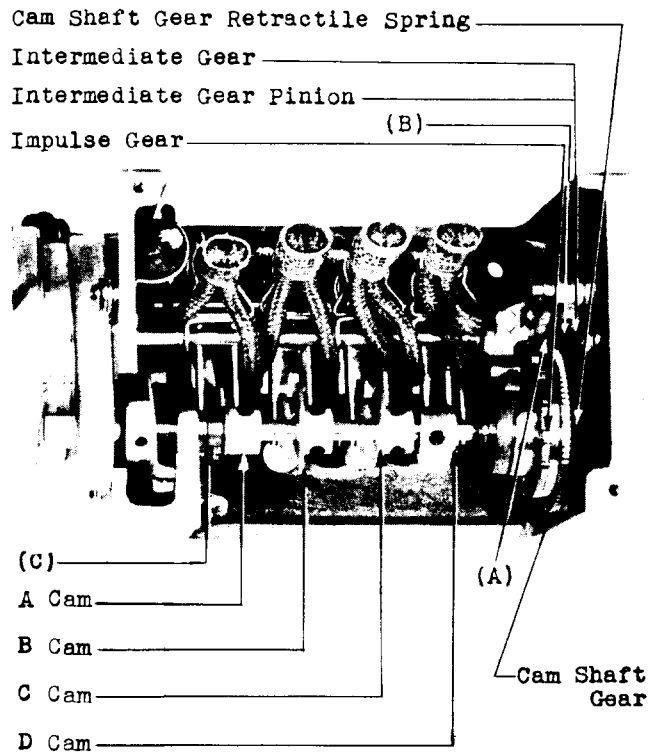

Fig. 3 - Cam Arrangement
Intermediate Gear Bearings	- Fig. 3 (A)
Intermediate Gear Pinion Teeth	- Fig. 3 (B)
- (a) Fig. 3 (C): The cam shaft shall have perceptible end play. Gauge by eye and feel.